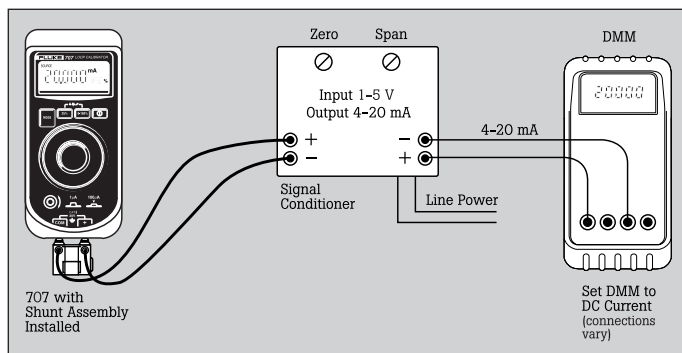

Figure 6
1. Place a precision multimeter, such as the Fluke 87 DMM, set to dc current mode, in series with the output of the signal conditioner as shown in Figure 6.